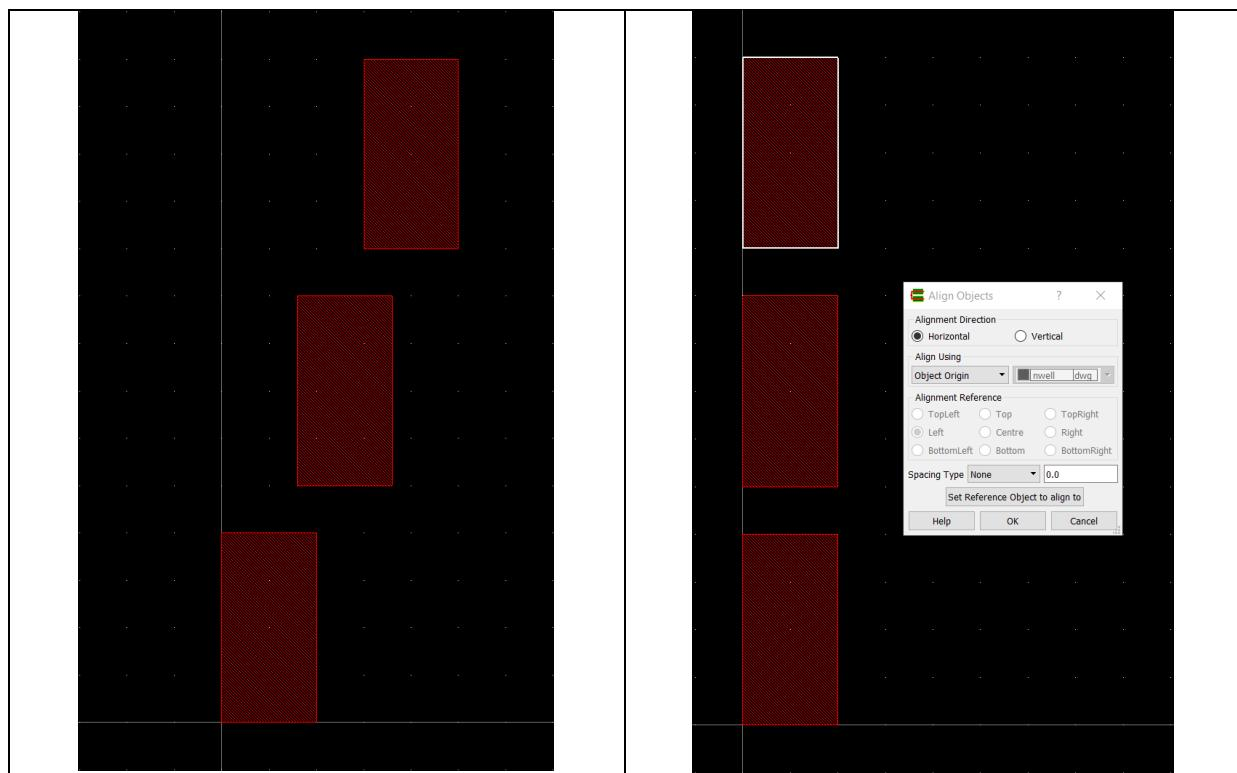

Figure 64 - Before and after horizontal align
*Object Origin* aligns according to the origin of an instance or array or the lower left of the bounding box of shapes. Figure 64 shows object alignment using Horizontal *Alignment Direction*.